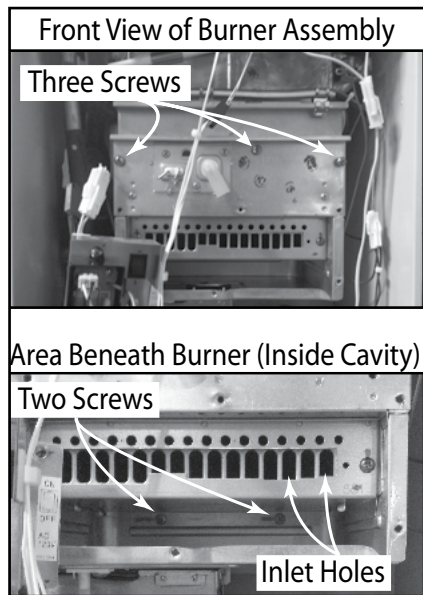

Figure 61.
11.1 Remove two screws below the burner, at the back (Figure 61).
11.2 Remove three screws across the front of the burner. See Figure 61. Do not remove the screws around the flame sensor/AFR and igniter rods.
- Using pliers, grip the burner on one side and pull. (Grip at an inlet hole; see Figure 61.)